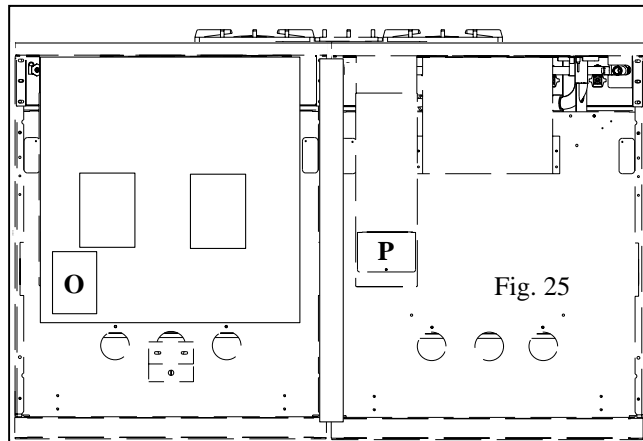

Fig. 25
- Remove access door **O** (Figure 25, gas oven range) or **P** (Figures 25 and 26, gas and electric range).